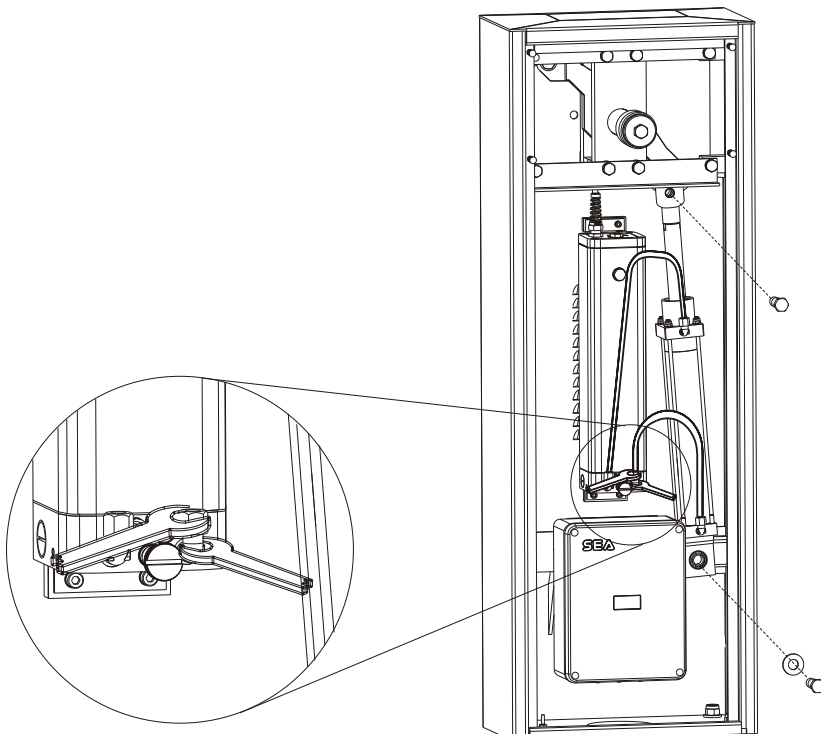

Fig. 4
If the barrier is with closing on the left hand side exchange the piston from the right to the left hand side as shown in Fig.4 and 5.
N.B.: Before exchanging the piston loosen about a middle turn the two links of the connection pipes between the hydraulic unit and hydraulic piston to facilitate the inversion (only on the unit) as in Fig.4.
Once the piston has been exchanged lock the fixing screws of the piston and the previously loosened connection pipes on the hydraulic unit again (Fig.4).